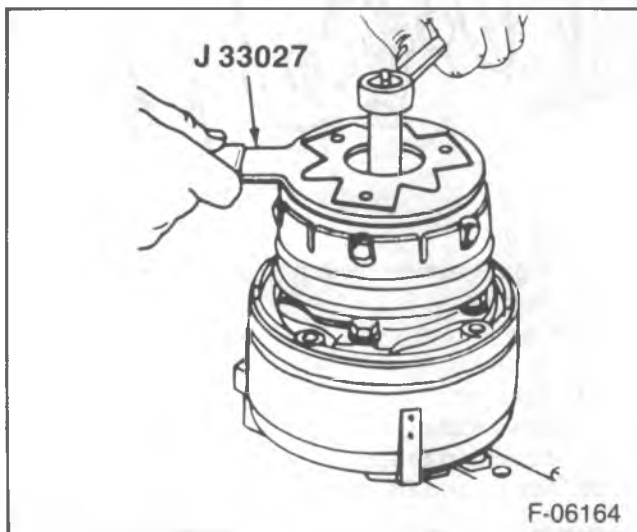

Figure 6—Removing the Shaft Nut
1. Shaft nut with J 9399 (figure 6).